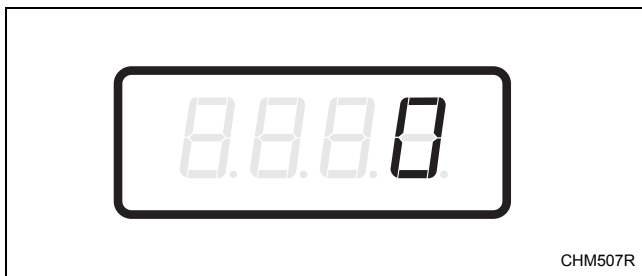

Figure 9
4. There are five digits in Normal Hot Vend Price. The fifth digit will appear in the display and will flash one (1) second on, one (1) second off. Refer to *Figure 9*.